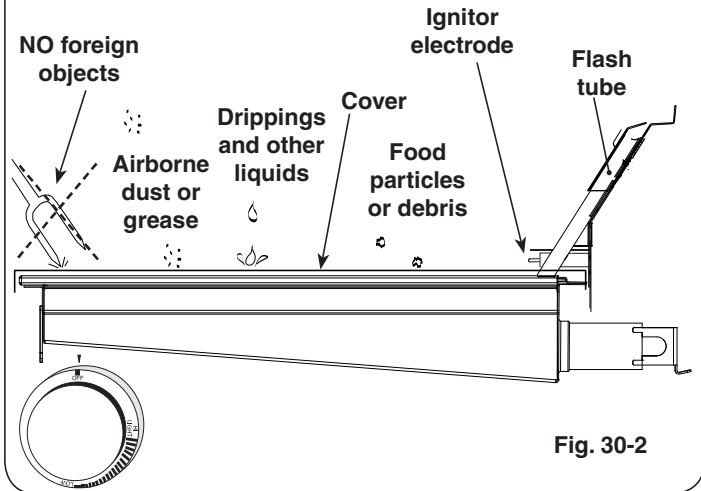

Fig. 30-2
- When not in use, **always** cover the infrared burner with the stainless-steel cover. This protects the burner from drippings (from other cooking), airborne particles, and foreign objects (Fig. 30-2).
- Do not strike or scratch the burner ceramic as it may chip, crack, or break (Fig. 30-2).